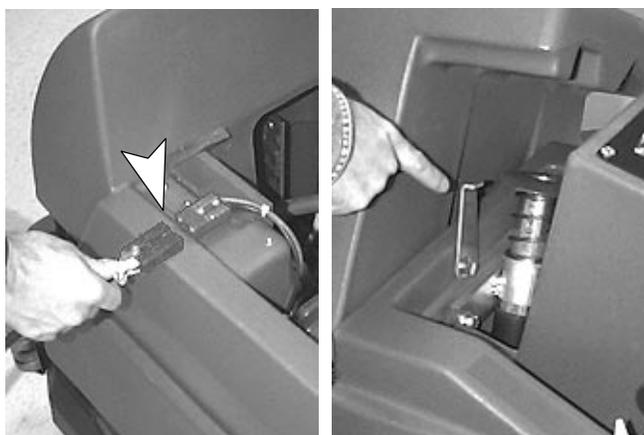

FIG. 19
6. Connect battery charger to machine as shown. Flip up tank support stand to promote ventilation (Figure 19).